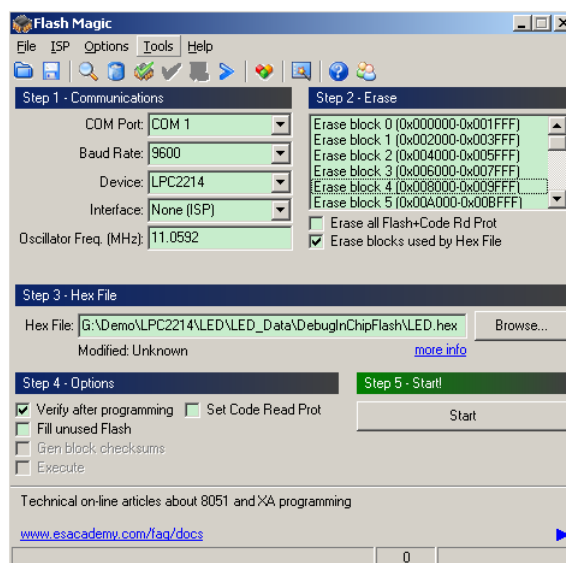

Figure 10 Flash Magic ISP download
- (10) Open the software Flash Magic (install it before using), and set as Figure 10 shows. Note that the setting of **COM port** and the path of **Hex File** should be modified based on the actual situation.